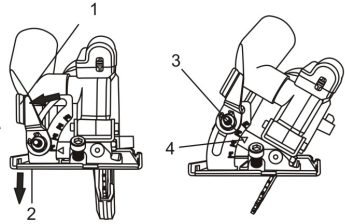

Fig. 3
1. Rotate the bevel angle locking lever (1) counterclockwise (Fig. 3).
2. Rotate the sole plate (2) to the desired angle.
2. Set the depth (Fig. 2) and set the bevel angle at 0° (Fig. 3).